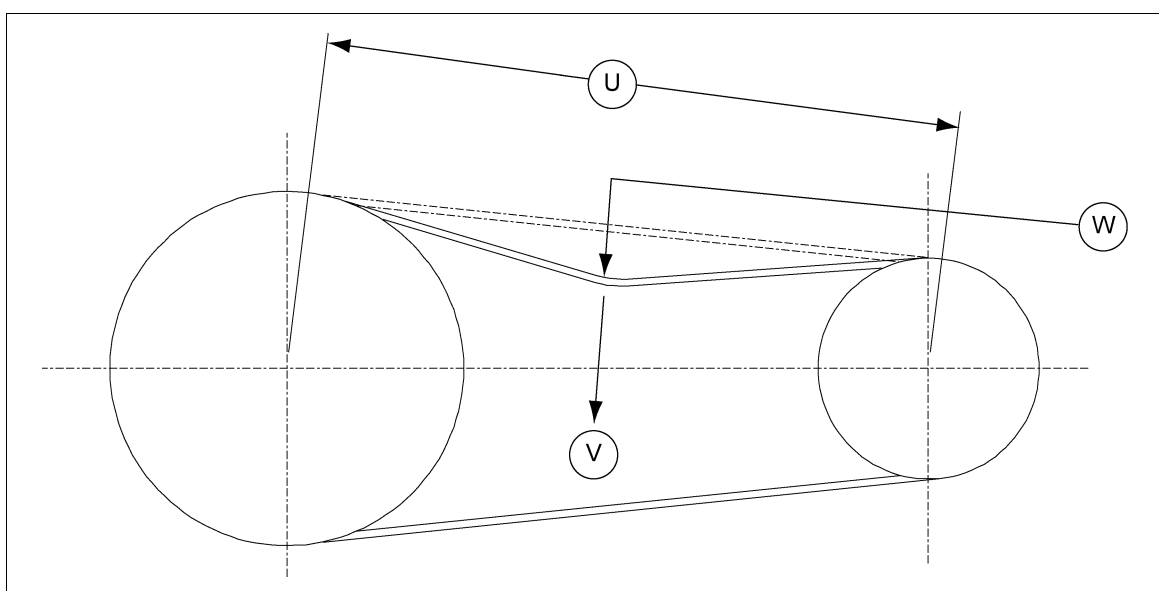

Figure 4T
Adjustment of V-belt tension is achieved by tightening the hex nuts located on the four (4) jack screws of the motor base. Adjust motor base equally at all four (4) jack screws to maintain shaft alignment. Belts are designed to fit loosely upon installation. When the V-belt tension is correct, tighten the top nut on the jack screws to lock the motor base in position. Proper tension is $1/64$ " of deflection per one inch (1") of sheave centers on one side of belt, centered between sheaves. (See Figure 4T.)